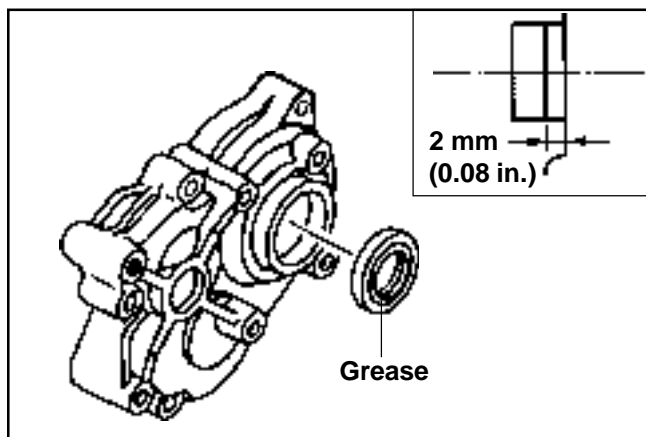

Figure 11-3. Installing Oil Seal.
3. Use a seal driver and install the crankshaft oil seals (manufacturer's numbers visible) into crankcase and closure plate. Seals should be installed to a depth of 2 mm (0.080 in.) below outer surface. See Figure 11-3. Apply a light coating of lithium grease to seal lips when installing.